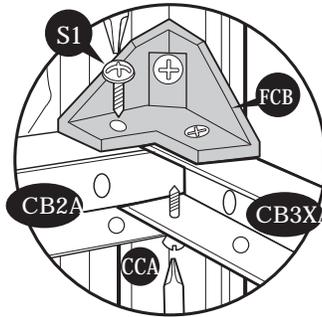

Fig. 2: Use (S1) screws. Fix (CB2A) to (FCB) and (CB3XA)
**18.** Stabilize the side panels with center bands (CB2A) & (CB3XA). Fix (FCB) fitting to corner column (CCA). See Fig.1 Follow the Fig. 2, 3, 4, 5 & 6.